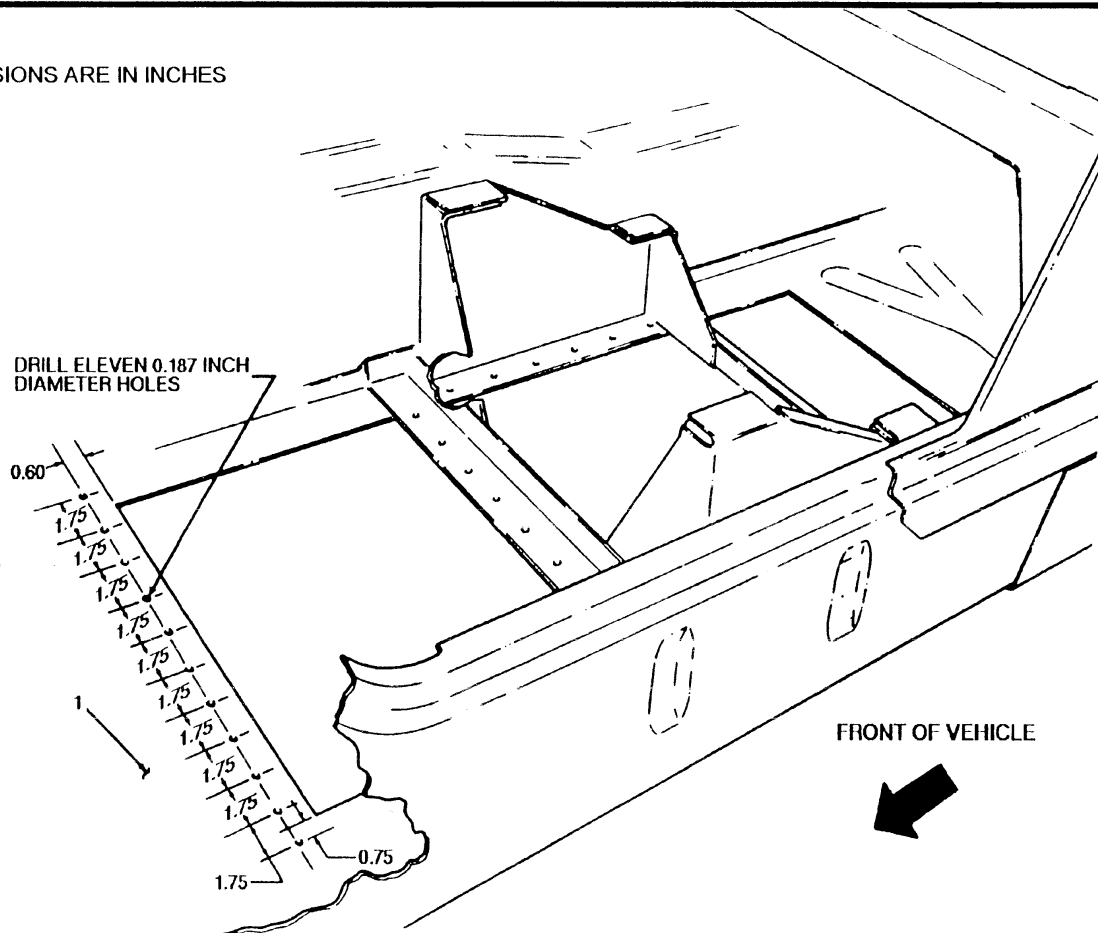

FIGURE 3-51
1. Locate, mark, and drill eleven 0.187-inch diameter holes in left front floor panel (1). (see figure 3-51)